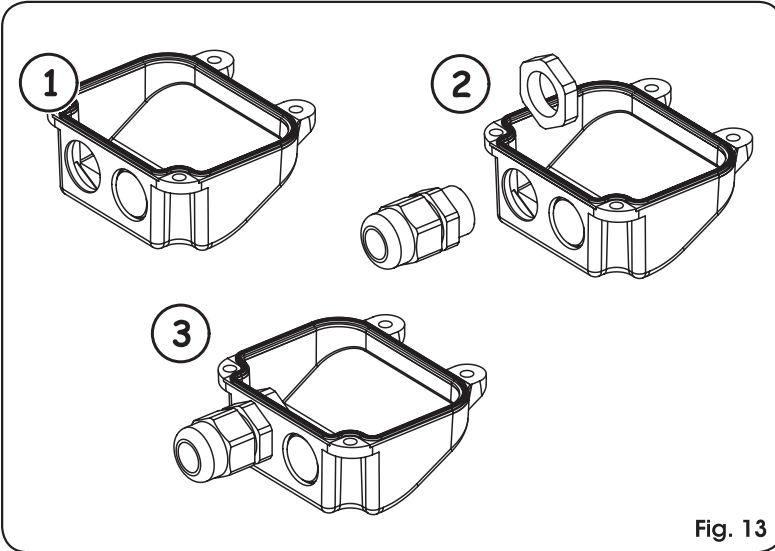

Fig. 13
1. Open one of the two pre-drilled holes in the supplied cover (Fig. 13); in case of operators with limit switches, open both holes.